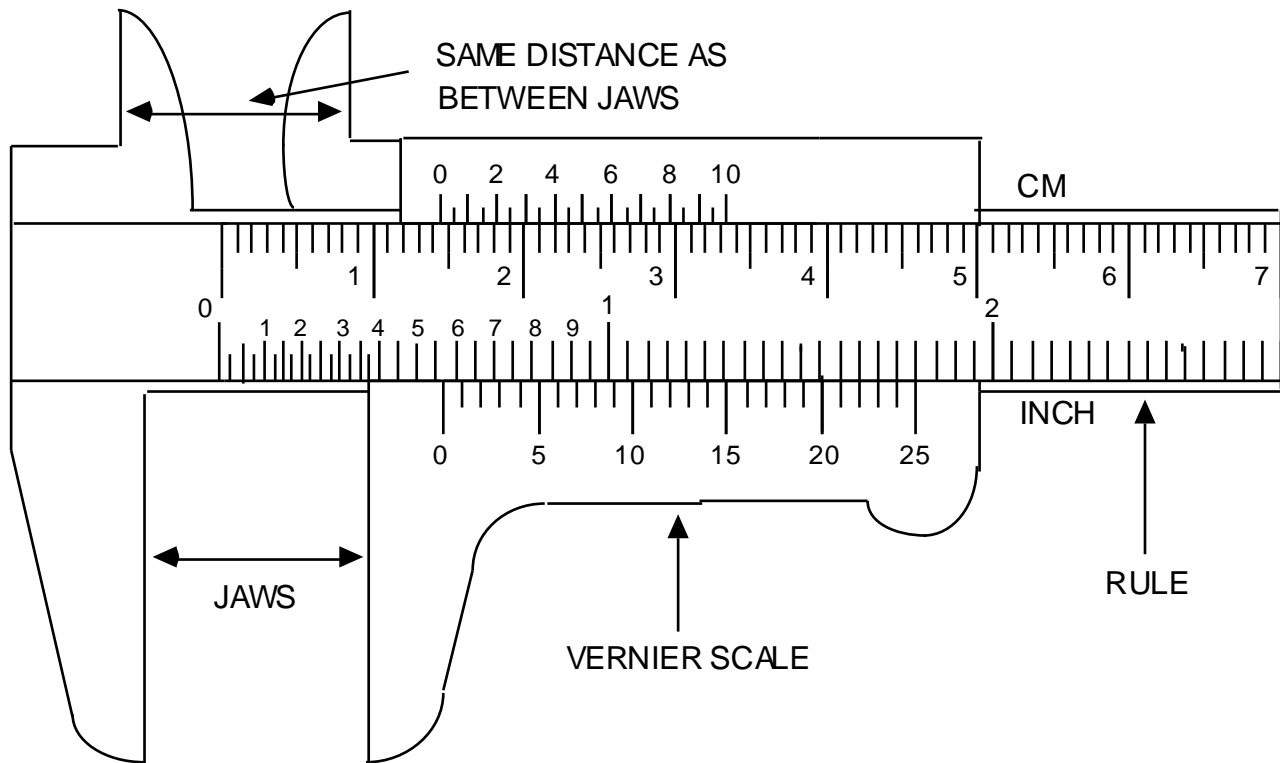

Figure 1: Vernier Caliper
Looking at the vernier caliper in Fig. 1, notice that while the units on the rule portion are similar to those on an ordinary metric ruler, the gradations on the vernier scale are slightly different. The number of vernier gradations is always one more than the number on rule for the same distance. The line on the vernier which is aligned with one on the rule tells us the fraction of the units on the rule.
- (1) Roll the thumb wheel until the jaws are completely closed (touching each other). Now check whether the caliper is reading exactly zero. If not, record the caliper reading, and subtract this number from each measurement you make with the caliper.
- (2) Use either the inside edges of the jaws, or the outside edges of the two prongs at the top of the caliper to make your measurement. Do not use the tips of the prongs. Roll the thumb wheel until these surfaces line up with the end points of the distance you are measuring.
- (3) To read the caliper:
- (a) record the numbers which correspond to the last line on the rule which falls before the index line (marked as 0) on the vernier scale. In Fig 1, this would be 1.4 cm since the index line falls after the 1.4 cm line and before the 1.5 cm line.
- (b) count to the right on the vernier scale until you reach a vernier line which lines up with a line on the rule and record the number of this vernier line as your last digit. In Fig 1, it is the vernier line marked 4 (rather than the 4.5 line, say) which is aligned with one on the rule. The full vernier scale corresponds to one small division on the main scale, that is, .1 mm, so the vernier tells us to add $.4 * .1 = .04\text{cm}$, so the whole distance is 1.440 cm.
Alas, the inch scale vernier of Fig 1 is not marked correctly; the correct corresponding reading would be .567 inches, so the inch vernier should have lined up at about 17 instead of 25: $.55\text{ inches} + .017\text{ inches}$).